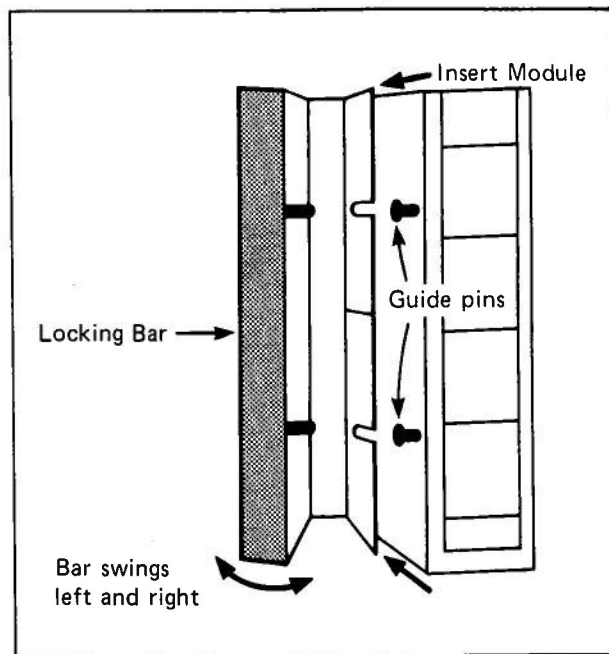

Figure 6 - Guide Slots
Step 2 – Move the Locking Bar on the I/O Rack's built-in terminal block to the left in order to uncover the guide slots on the block. (See Figure 6.)